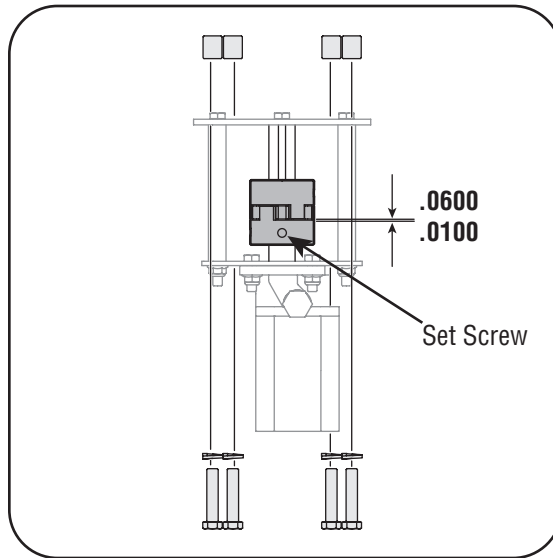

Figure 5-3
1. Remove three nuts that secure the pump to the coupling shield. Two nuts are at the bottom corners and one is in the top center. See Figure 5-3.
10. Set .010" to .060" clearance/gap between the nylon "spider" and the engine coupling half by sliding a feeler gauge or matchbook cover between the nylon "spider" and the engine coupling half and moving pump coupling half as needed. Secure pump coupling half with set screw. See Figure 5-3.